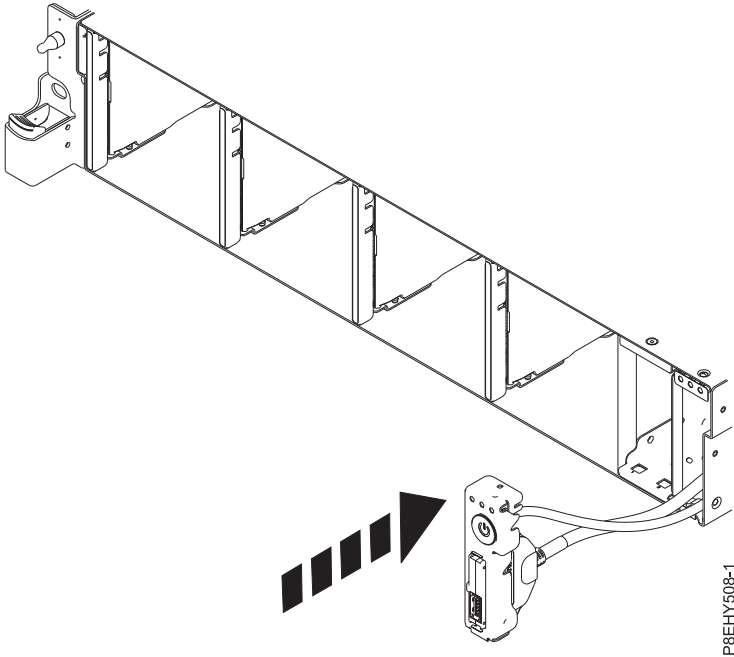

Figure 71. Replacing the front USB cable into the system backplane
4. Insert the front USB cable and the power switch and cable into the system. Be careful to route the cables through to the system backplane. See Figure 71 on page 58.